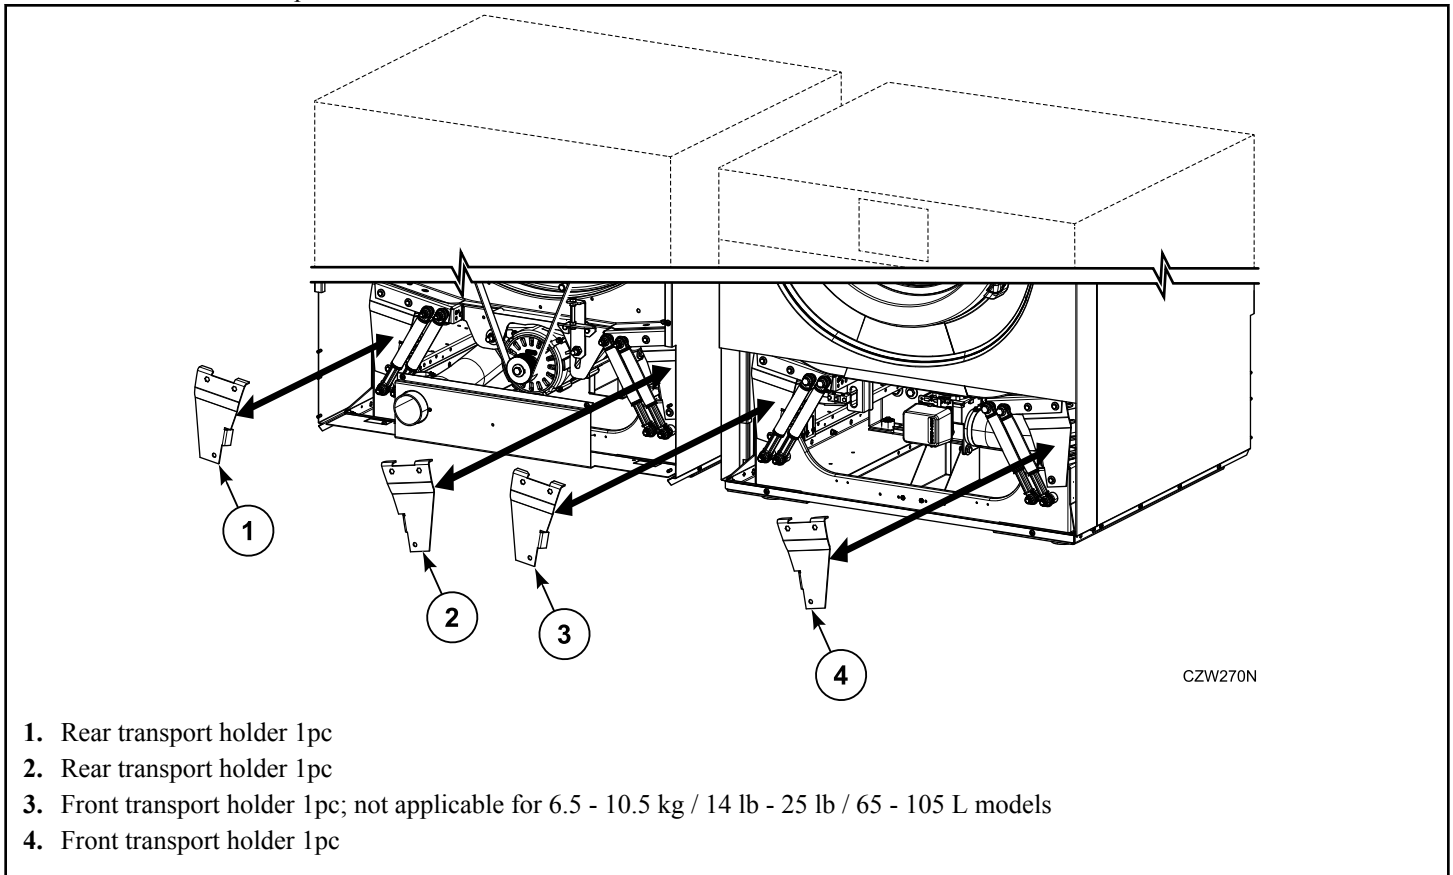

Figure 12
1. Remove front and rear panel, refer to *Figure 12* .